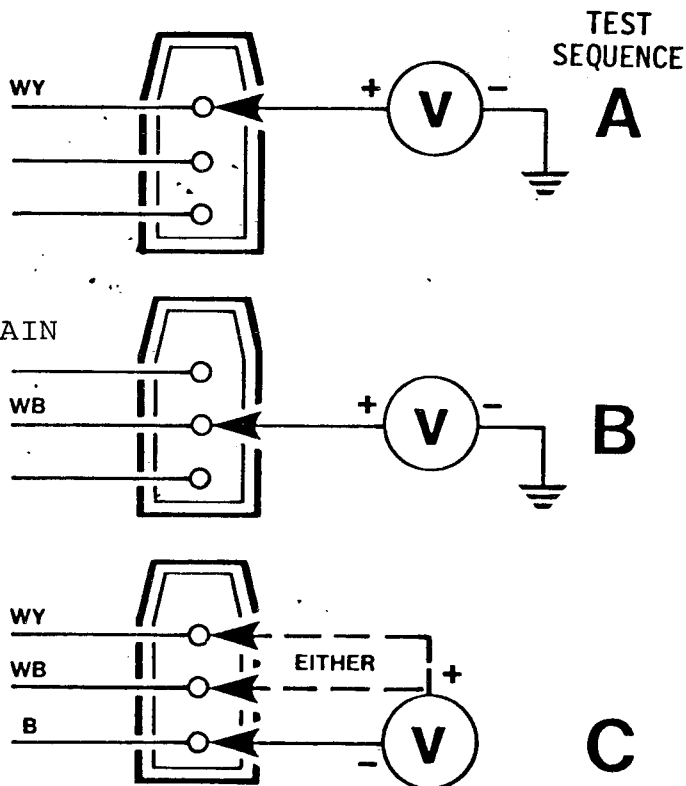

FIG. 10. AMPLIFIER MAIN HARNESS CONNECTOR, WIRING TESTS
- (iii) Connect DC voltmeter in three tests A, B, & C as shown in FIG. 10